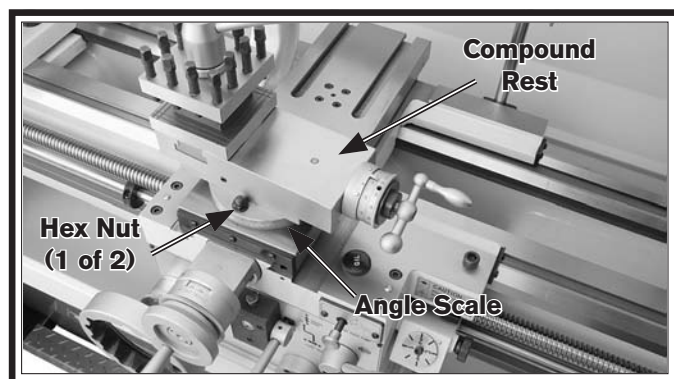

Figure 59. Compound rest.
1. Loosen the two hex nuts at the base of the compound rest (1 of 2 shown in **Figure 59**).